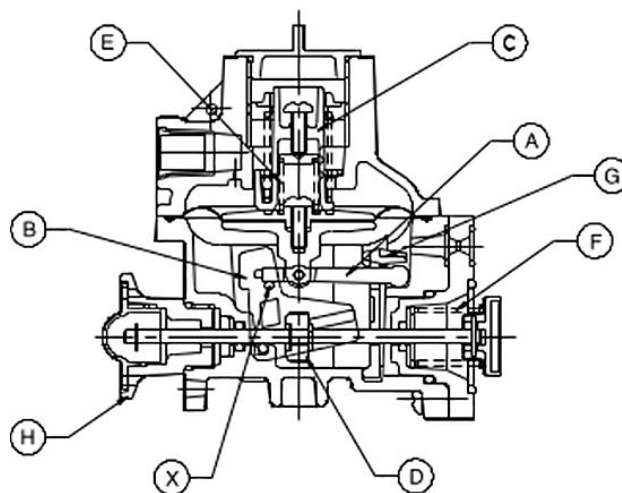

Figure 1 - Latched position
At normal working pressures the internal mechanism is 'latched' as shown in figure 1. The lever (A) and latch (B) are engaged with the diaphragm in rest position touching the base of the opss spring holder (C). The valve and its spindle are held open by the latch holding the tripoff bushing (D) attached to the spindle.